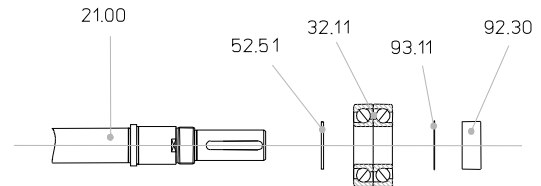

fig. 4
- Detach the shaft nut 92.30 and take off the safety tab washer 93.11. Then pull the inclined ball bearing 32.11 and the spacer 52.51 from the shaft 21.00. (fig. 4)